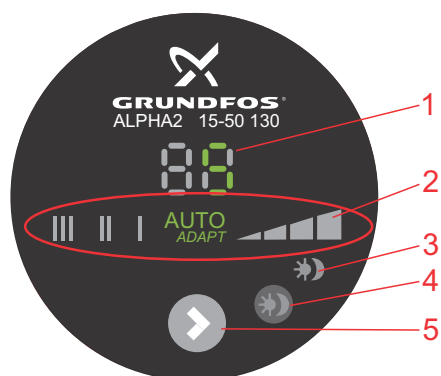

Fig. 8 GRUNDFOS ALPHA2 control panel
The display (fig. 8, pos. 1) is on when the power supply has been switched on.
The pump has eight optional settings which can be selected with the push-button. See fig. 8, pos. 5.
Light in  (fig. 8, pos. 3) shows that Automatic Night SetBack is active. See section 7.5 *Push-button for activation of Automatic Night SetBack*.
The push-button (fig. 8, pos. 4) activates/deactivates Automatic Night SetBack.
The light field  (fig. 8, pos. 3) is on when Automatic Night SetBack is active.
Every time the push-button (fig. 8, pos. 5) is pressed, the pump setting is changed.